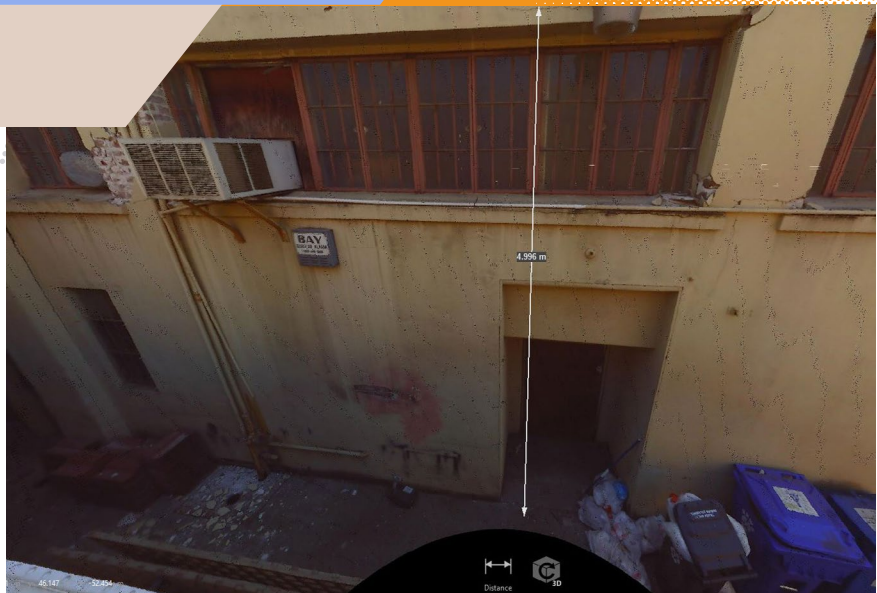

Figure 4: North wall ground to underside Level 2 = 4.99m.
- The long horizontal cracks are measured and compared to the 3D model/2D drawings. The observation concludes that the cracking occurred below the floor/ roof levels, which the dimensioning confirms (see **Figures 4 & 5**).